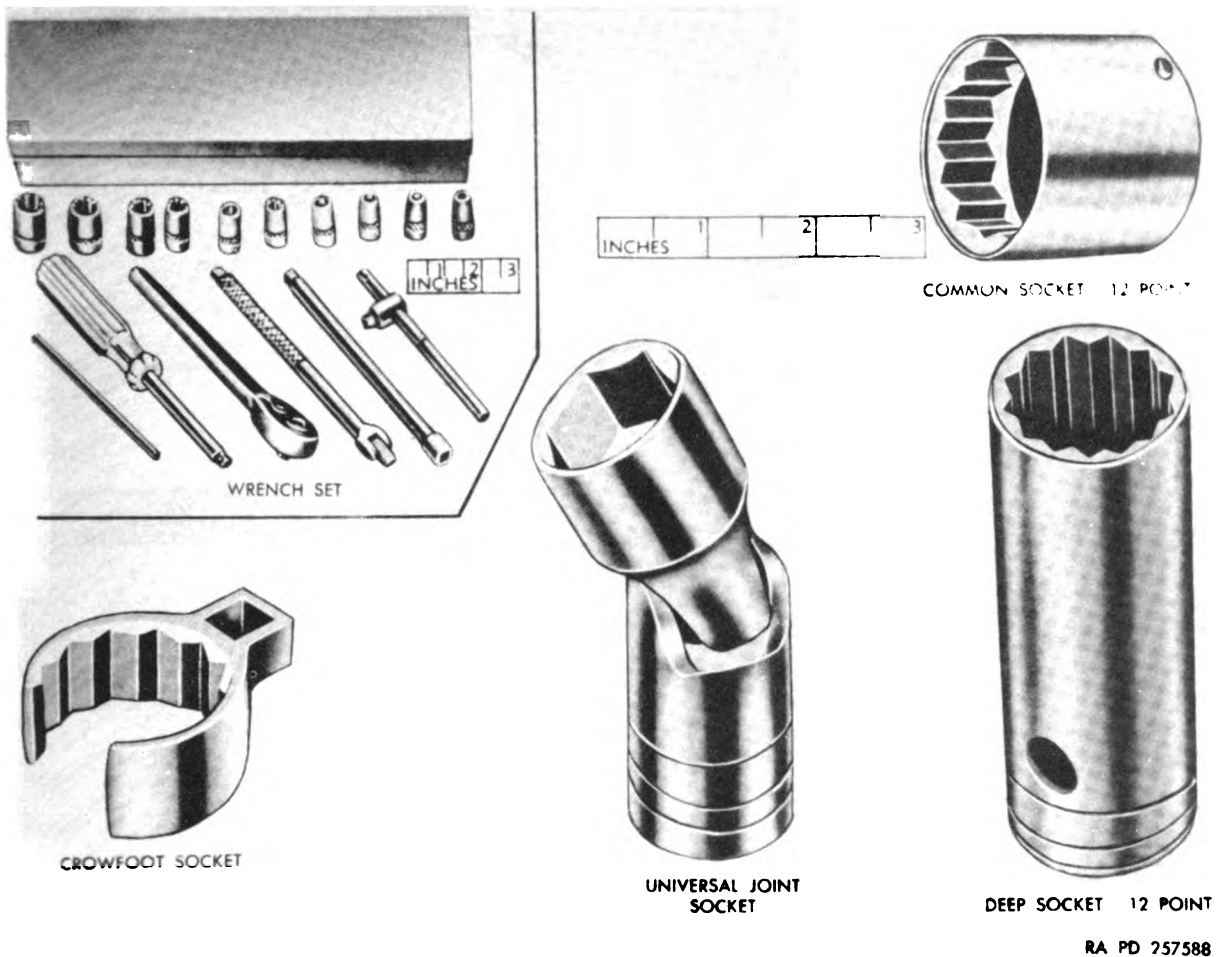
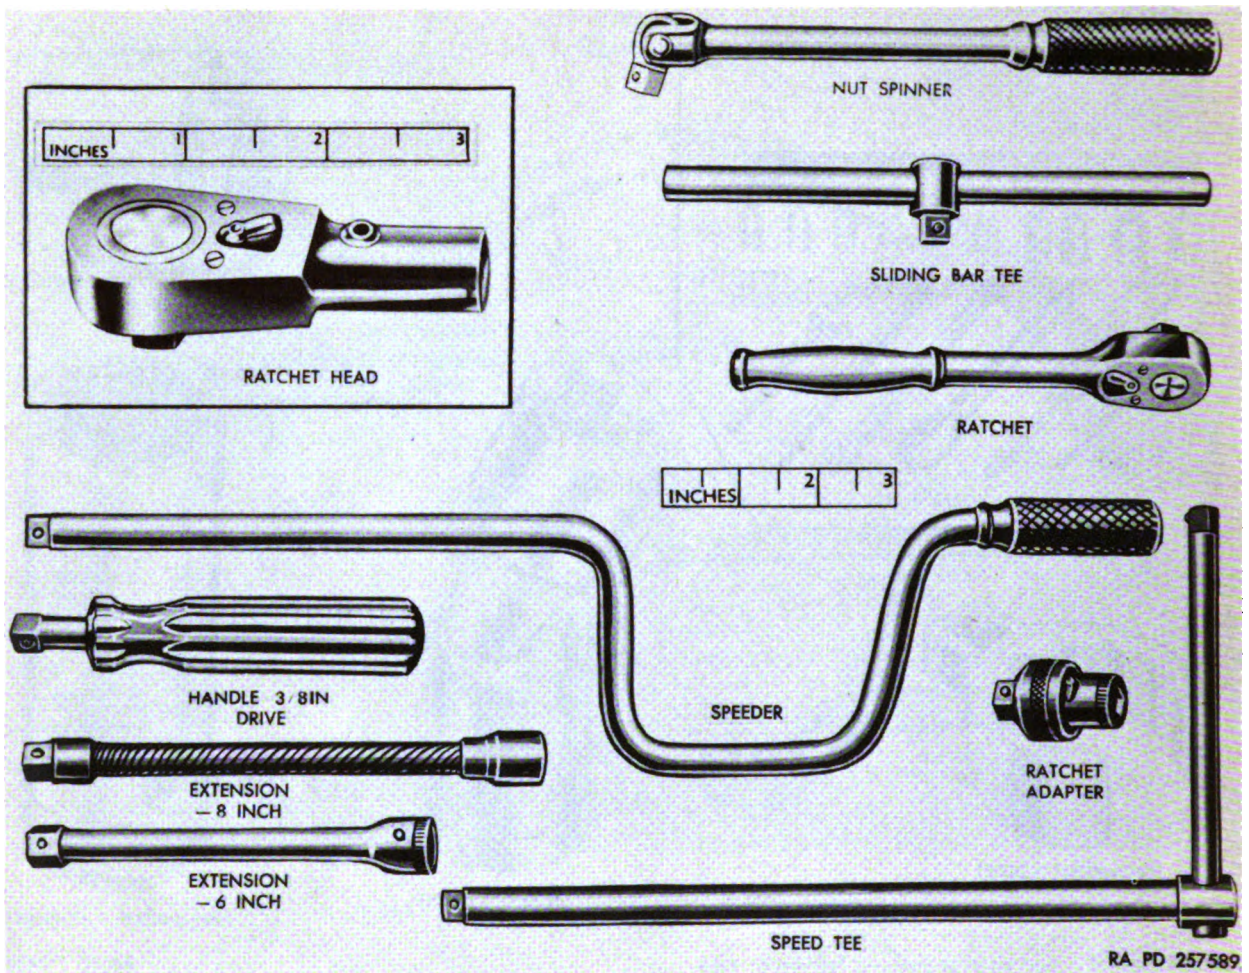

Figure 118. Socket and crowfoot wrenches.
Figure 119. Socket wrench ratchets, handles and extensions.
- (4) *Socket wrenches.* The common socket wrench is boxlike and made as a detachable socket (fig. 118) for various types of handles. A socket wrench
set (fig. 118) usually consists of various sized sockets, a ratchet (fig. 119), a sliding bar tee, a speeder, a speed tee, a ratchet adapter, a nut spinner, a $\frac{3}{8}$ -inch drive handle, and extensions. Socket wrenches have two openings, one a square hole which fits the handles and the other a circular hole with notched sides to fit the bolt or screw head or nut to be turned. The square hole is made $\frac{1}{4}$, $\frac{3}{8}$, $\frac{1}{2}$, $\frac{3}{4}$, or 1 inch in diameter; each must be driven with the matching drive or speeder handle. The notched opening may have 6, 8, or 12 points. Socket wrenches are the fastest wrenches to use, since the ratchet handle permits the socket to remain on the nut or bolt and the handle does not have to be removed from the socket for turning. Socket wrenches are sized from $\frac{5}{32}$ to $3\frac{1}{8}$ inches in steps of 32ds, 16ths, or 8ths of an inch.
- (6) *Crowfoot wrenches.* A crowfoot wrench (fig. 118) has an open end in the box containing notches and a square hole which fits the handle. They are used in conjunction with the socket wrench handles having a $\frac{3}{8}$ - or $\frac{1}{2}$ -inch square drive. They range in size from $\frac{3}{8}$ to $2\frac{1}{2}$ inches.
c. Socket Wrenches. To use a socket wrench, select the size of socket that fits the nut or bolt to be turned and push it onto the handle which is best suited to the job. If there is room to swing it, use the ratchet handle. The handle may be made to ratchet in one direction for tightening, and in the other direction for loosening work. It is necessary only to swing the handle back and forth in order to turn the nut in the desired direction. The socket need not be raised from the nut at the end of each swing. A nut spinner handle (fig. 119) also saves time. When a tight nut is to be loosened or a nut is to be set up, the handle can be swung at right angles to the socket to provide the most leverage. At the point where the nut turns easily, the handle can be swung to a vertical position and twisted rapidly between the fingers in the same manner as a screwdriver. A universal joint socket wrench (fig. 118) makes it possible to turn nuts where a straight wrench could not be used unless some part of the machine or equipment is removed.